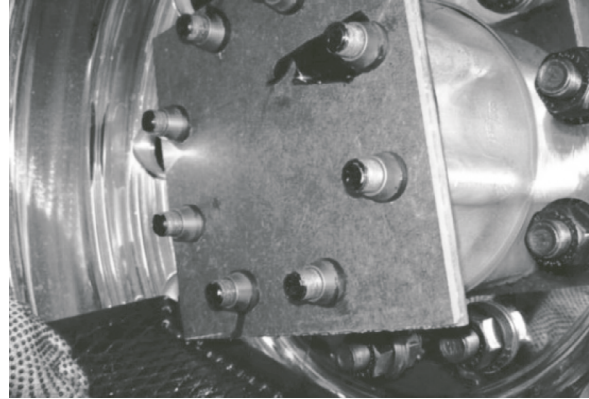

Figure 40 - Hub cover plate
4. Install a suitable hub cover plate over the opening and reinstall fasteners to seal it (**Figure 40**).